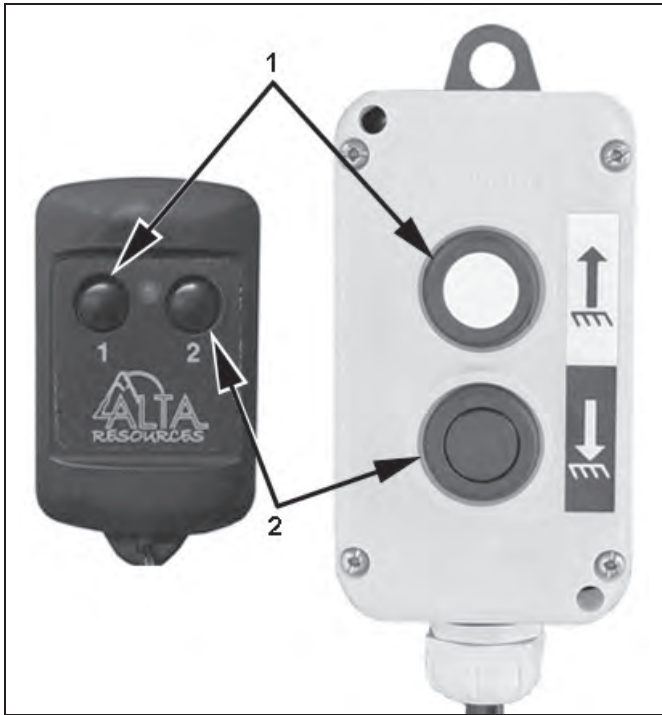

Figure 5-9- Remote or Pendant Dump Controller
- Standing well clear of the dump body in a safe location, push and hold the up button (1) on the control until the dump body reaches approximately the **halfway point** of its dumping angle. Never leave the control when operating the dump body. See figure 5-9
- Discontinue pushing the up button and walk to the rear of the trailer so you can estimate if there is enough space for the remainder of the load to be safely dumped. If not, then you need to fully lower the dump body by pushing and holding the down button (2) and then pull the trailer forward and then repeat the previous step. See figure 5-9.
- Press and hold the down button (2) to lower the dump body. See figure 5-9.